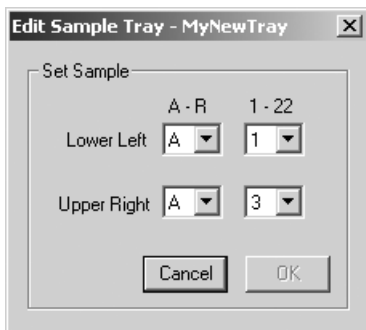

Figure 3-6. The Edit Sample Tray window.
11. (Optional) If you want to change the coordinates for a sample, click **Edit Sample**. The Edit Sample Tray window appears (figure 3-6). Change the grid coordinates for the sample and click **OK**.
- **Change the coordinates for an existing sample**—Click **Edit Sample**. The Edit Sample Tray window appears (figure 3-6). Change the grid coordinates for the sample and click **OK**.